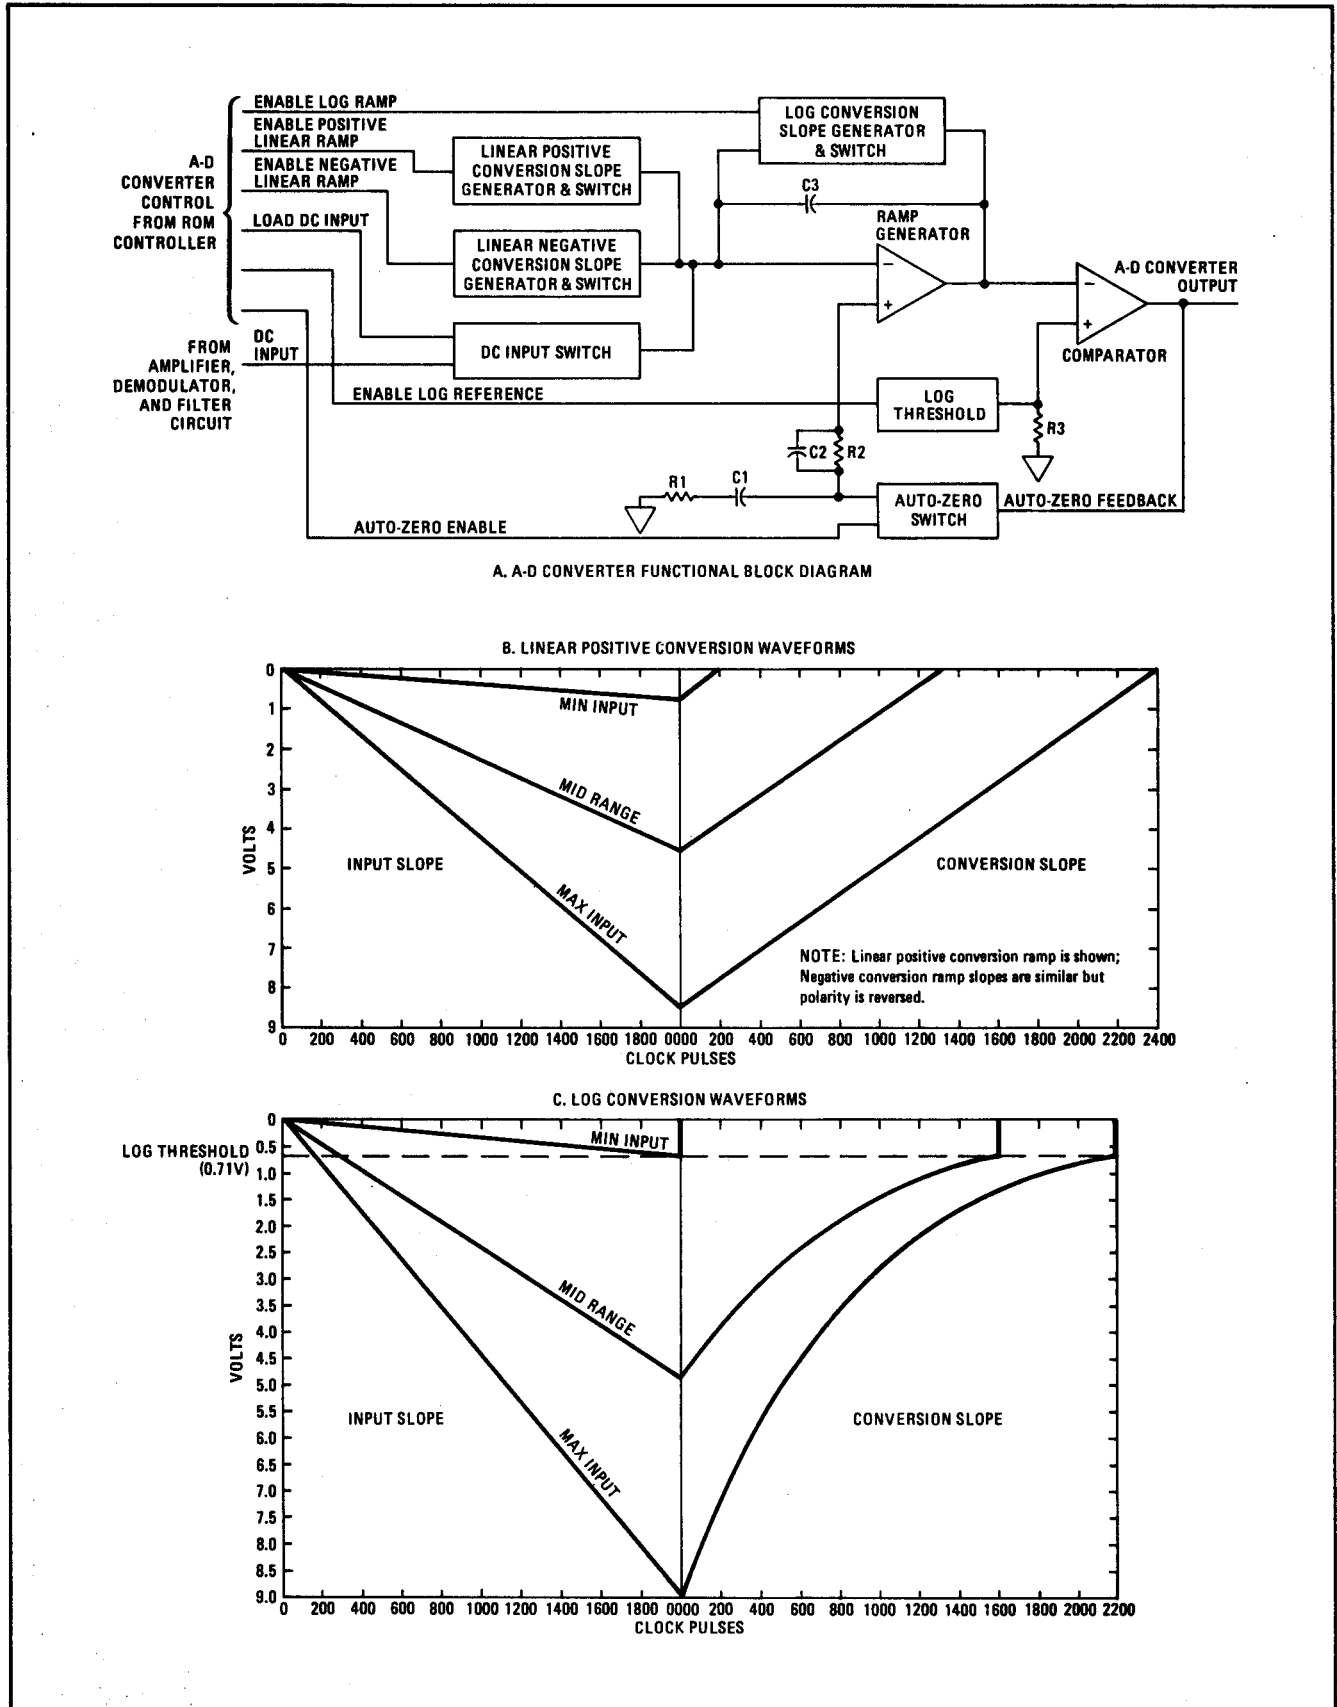

Figure 8-18. Analog-to-Digital Converter Simplified Diagram and Waveforms
**8-77. Auto-Zero Assembly.** The Auto-Zero Assembly's function is to remove any dc offset voltage associated with the Power Sensor. When the front-panel SENSOR ZERO switch is pressed, the Controller activates the Sensor Auto-Zero Enable input for a period of approximately four seconds. While this input is active, a feedback loop is configured between the Auto-Zero Assembly and the Power Sensor to allow a capacitor in the Auto-Zero circuit to charge to a value that cancels the dc offset of the Power Sensor. Loop stability is achieved when the Mount Auto-Zero output of the Auto-Zero Assembly holds the dc level at A3TP4 (DC) at  $0.000 \pm 0.002V$ . After the Sensor Auto-Zero Enable input is terminated, the feedback loop is broken, and the capacitor is held at the charged value. Thus the Mount Auto-Zero output continues to cancel the dc offset of the Power Sensor, thereby allowing accurate measurement of RF input power levels.
**8-78. Analog-to-Digital (A-D) Converter.** The Analog-to-Digital Converter (Figure 8-18) operates together with the Counters (see Service Sheet 3) to convert the dc output of the Amplifier, Demodulator, and Filter Circuits to a four-digit BCD number which indicates the numeric value of the RF input power level applied to the Power Sensor. Operation of the A-D Converter can be divided into three basic functions, auto-zero function, measurement function, and conversion function. As shown in Figure 8-15, Sheet 1, a subroutine is dedicated to each of these functions and the functions are performed in sequence during every program cycle. (Additional auto-zero functions may be enabled at other times in the program cycle if various pre-determined operating conditions are detected.) During the auto-zero subroutine, a feedback loop is